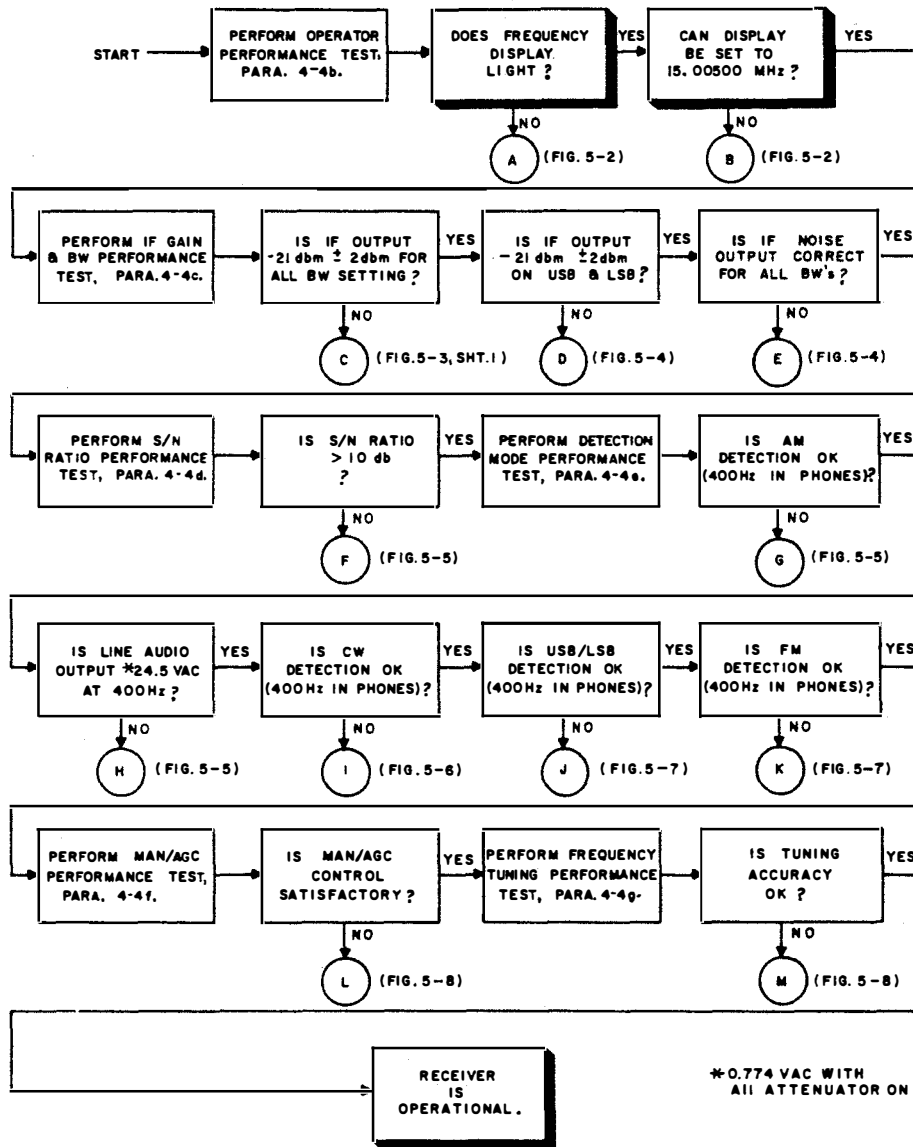

Figure 5-1. Receiver Overall Troubleshooting Fault Logic Diagram
b. Perform receiver overall troubleshooting procedures to isolate fault to a functional area (figure 5-1).
5-7. RECEIVER OVERALL TROUBLESHOOTING. Figure 5-1 is the receiver overall troubleshooting fault logic diagram. This gives the sequence for performing the performance tests detailed in Chapter 4. When a fault is detected during this sequence (in a functional area), this diagram indicates the next fault logic diagram to follow to continue troubleshooting. The troubleshooting index, in table 5-1, also indicates the next logic diagram to follow for a fault in a particular functional area.